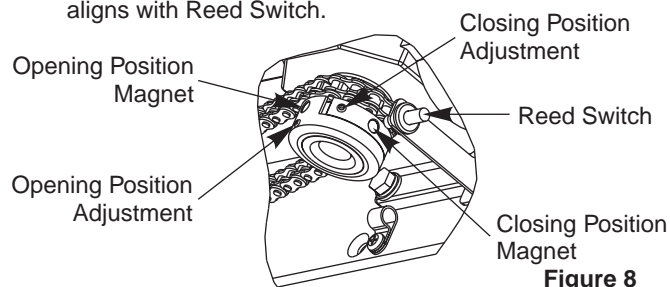

Figure 8
Step 16: Adjust Closing Ring Position (See Fig. 8) - Loosen 8-32 set screw located on Close Position Ring with 5/64" hex wrench provided. Rotate Assembly until Closed Position Magnet aligns with Reed Switch.